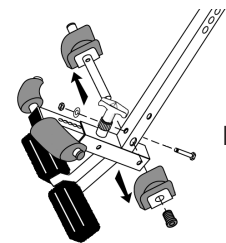

Figure 1
- Remove a black plug and one rear foam ankle clamp with silver backing from the same side of the rear bar. (See Figure 1)